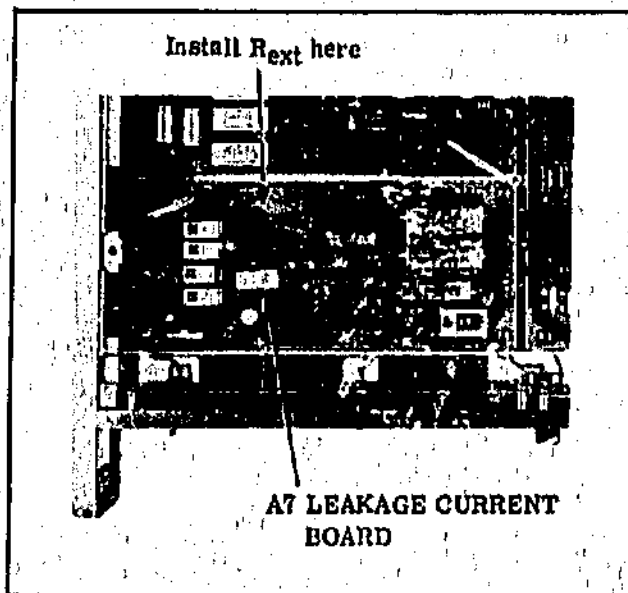

Figure 3-5. Protective Resistor Location.
2. Connect desired resistance value in parallel with A7R1. Solder resistor to position shown in Figure 3-5. Use following formula to compute value: